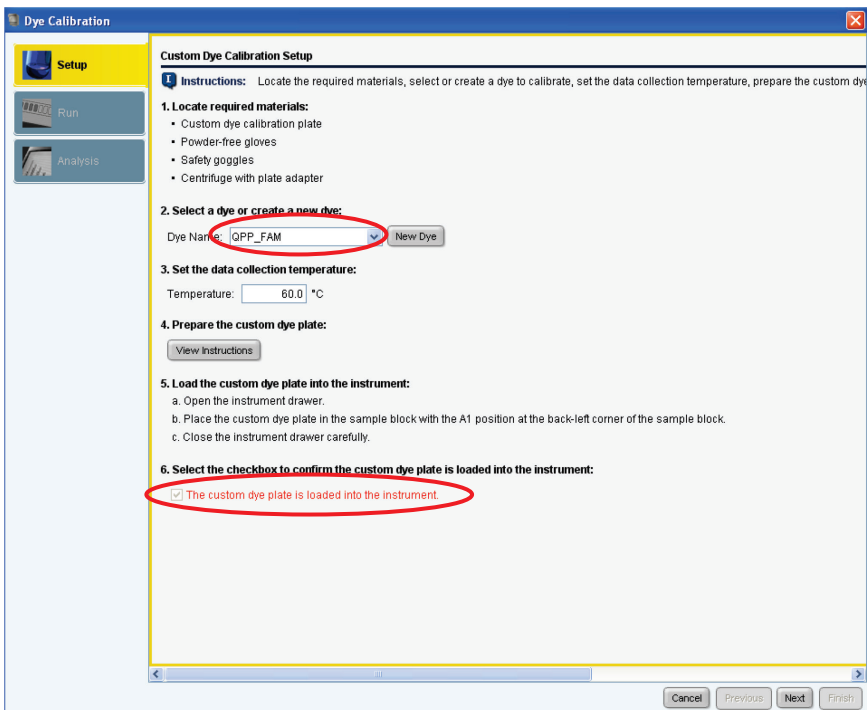

Figure 19. Selecting a dye from the drop down menu in the Custom Dye Calibration Setup.
18. Select **QPP_FAM** in the **Custom Dye Calibration Setup** window. Load the QPP_FAM plate prepared in Procedure A into the instrument. Confirm by checking the box for **The custom dye plate is loaded into the instrument** (Figure 19).